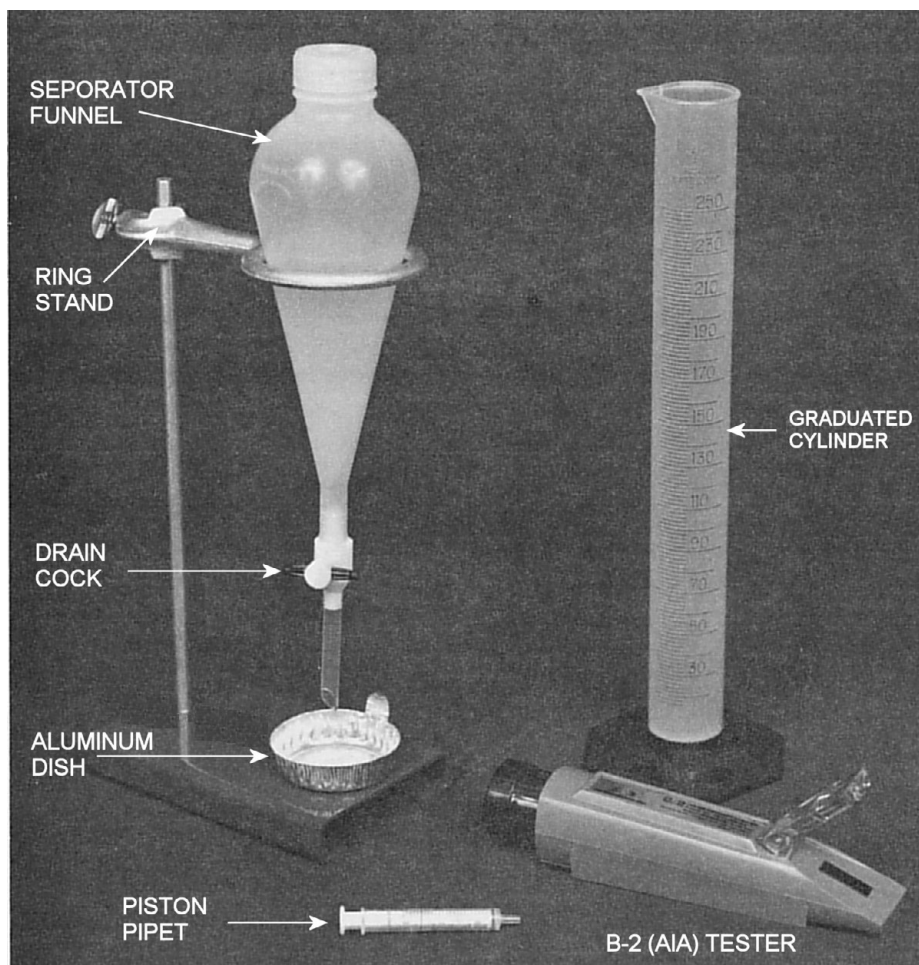

Figure 1-13.—AIA test equipment kit.
The B/2 AIA test kit (fig. 1-13) is used to determine the amount of fuel system icing inhibitor (FSII) in jet fuels. The kit consists of a refractometer, apparatus, graduated cylinder, and separatory funnel. Although the refractometer is small and made of plastic, it is neither cheap nor more durable than other equipment in the quality surveillance laboratory. Be careful when it is in use or in storage.
1. Set up the apparatus assembly as shown in (fig. 1-13).
4. Fill the graduated cylinder (fig. 1-13) and the separatory funnel about one-third full with the fuel to be tested. Rinse the cylinder and funnel thoroughly to clear them of any foreign material and empty the contents.